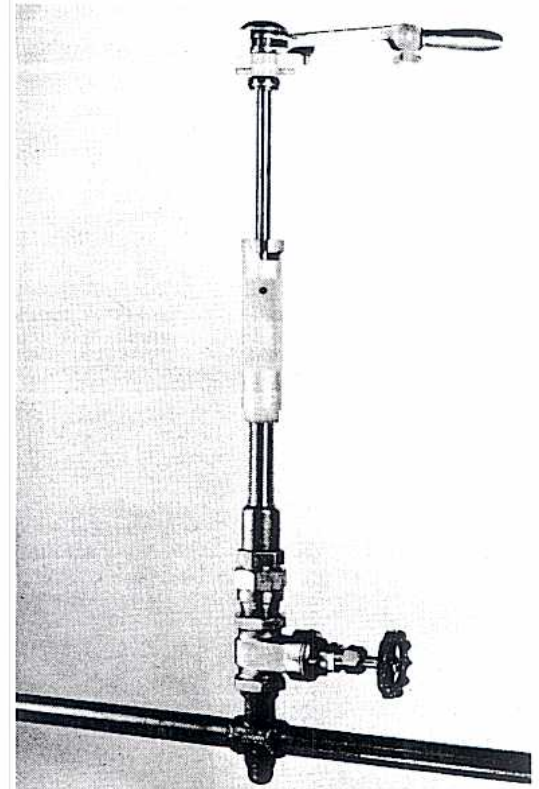

FIGURE 33
7. If using a gate valve place the drilling machine on gate valve and tighten machine adapter nipple into gate valve. FIGURE 33.